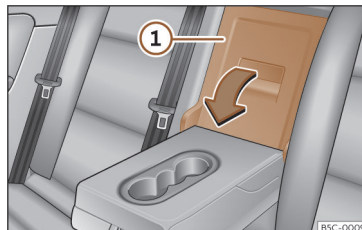

Fig. 197 On the rear seat backrest: opening the trapdoor.
- Pull the release lever in the direction of the arrow and push the trapdoor cover >>> **Fig. 197** ① down and forwards.